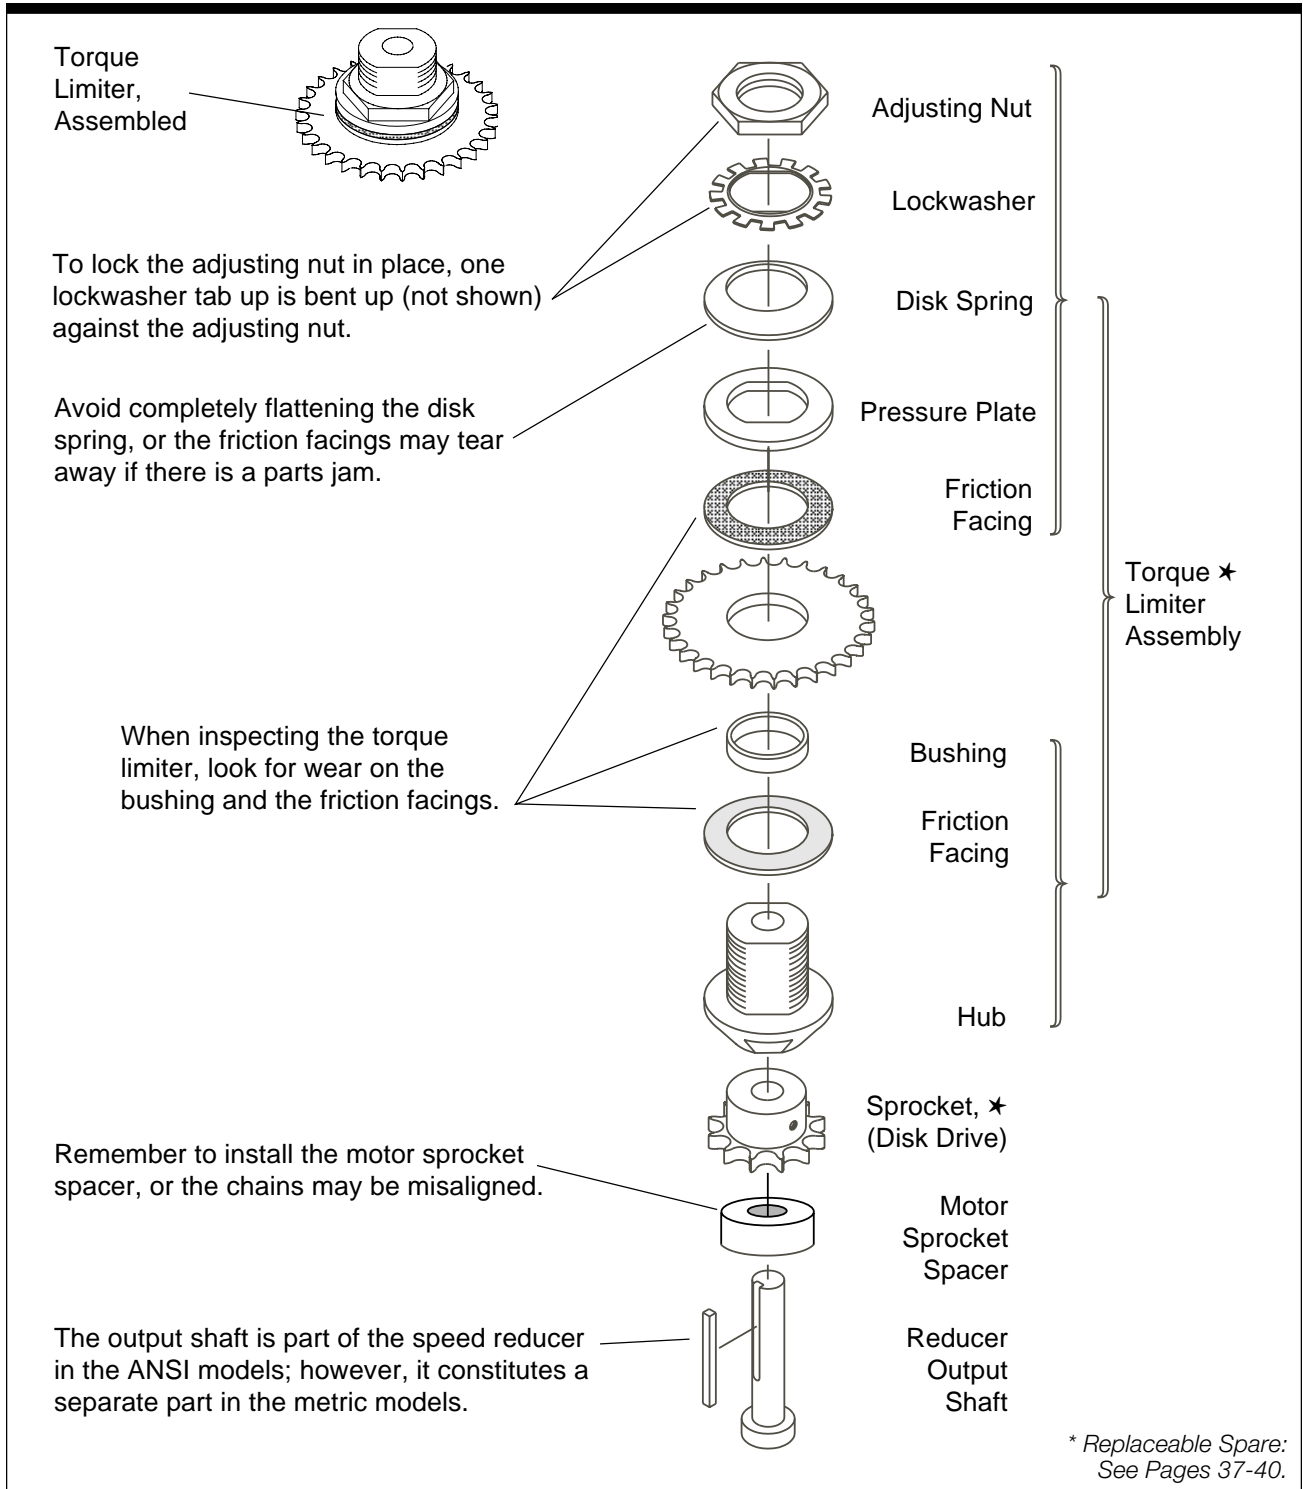

Figure 5-1. Torque Limiter Assembly
- ▶ To set bowl speed, you will need a hand-held tachometer (analog or digital) with a surface speed wheel indicator (see Figure 5-1).
Step 3 **Remove Torque Limiter.** Remove and disassemble torque limiter. Inspect and replace any broken or worn parts. Observe order of components (see Figure 5-1).